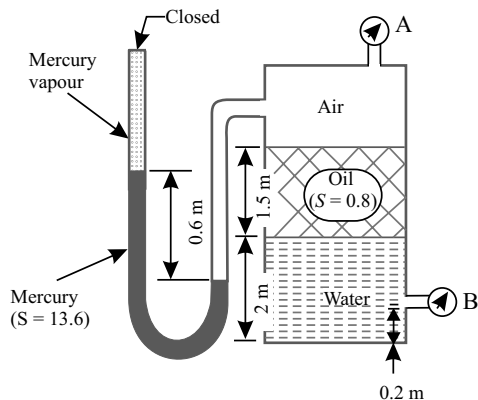

Fig. 2.51
18. Find the gauge readings at A and B in Fig. 2.51. [Ans. 17.39 kN/m^2 (vacuum), 12.61 kN/m^2]